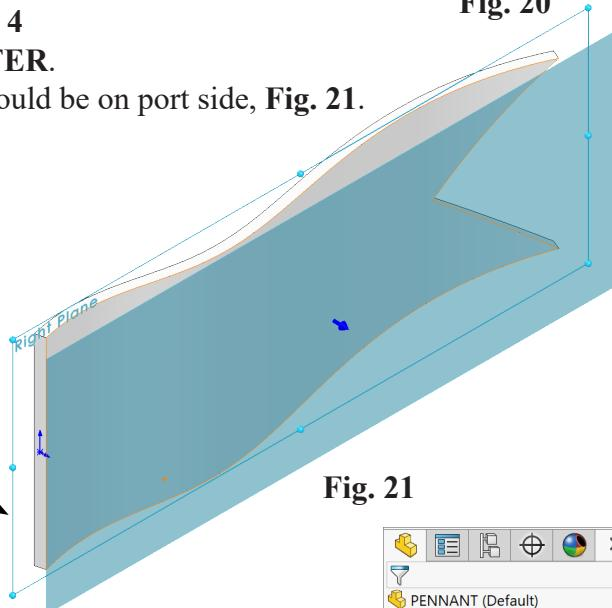

Fig. 21
Step 2. In graphics area **Ctrl drag Right plane to port side of Flag and release**, Fig. 21.
The new plane should be on port side, Fig. 21.